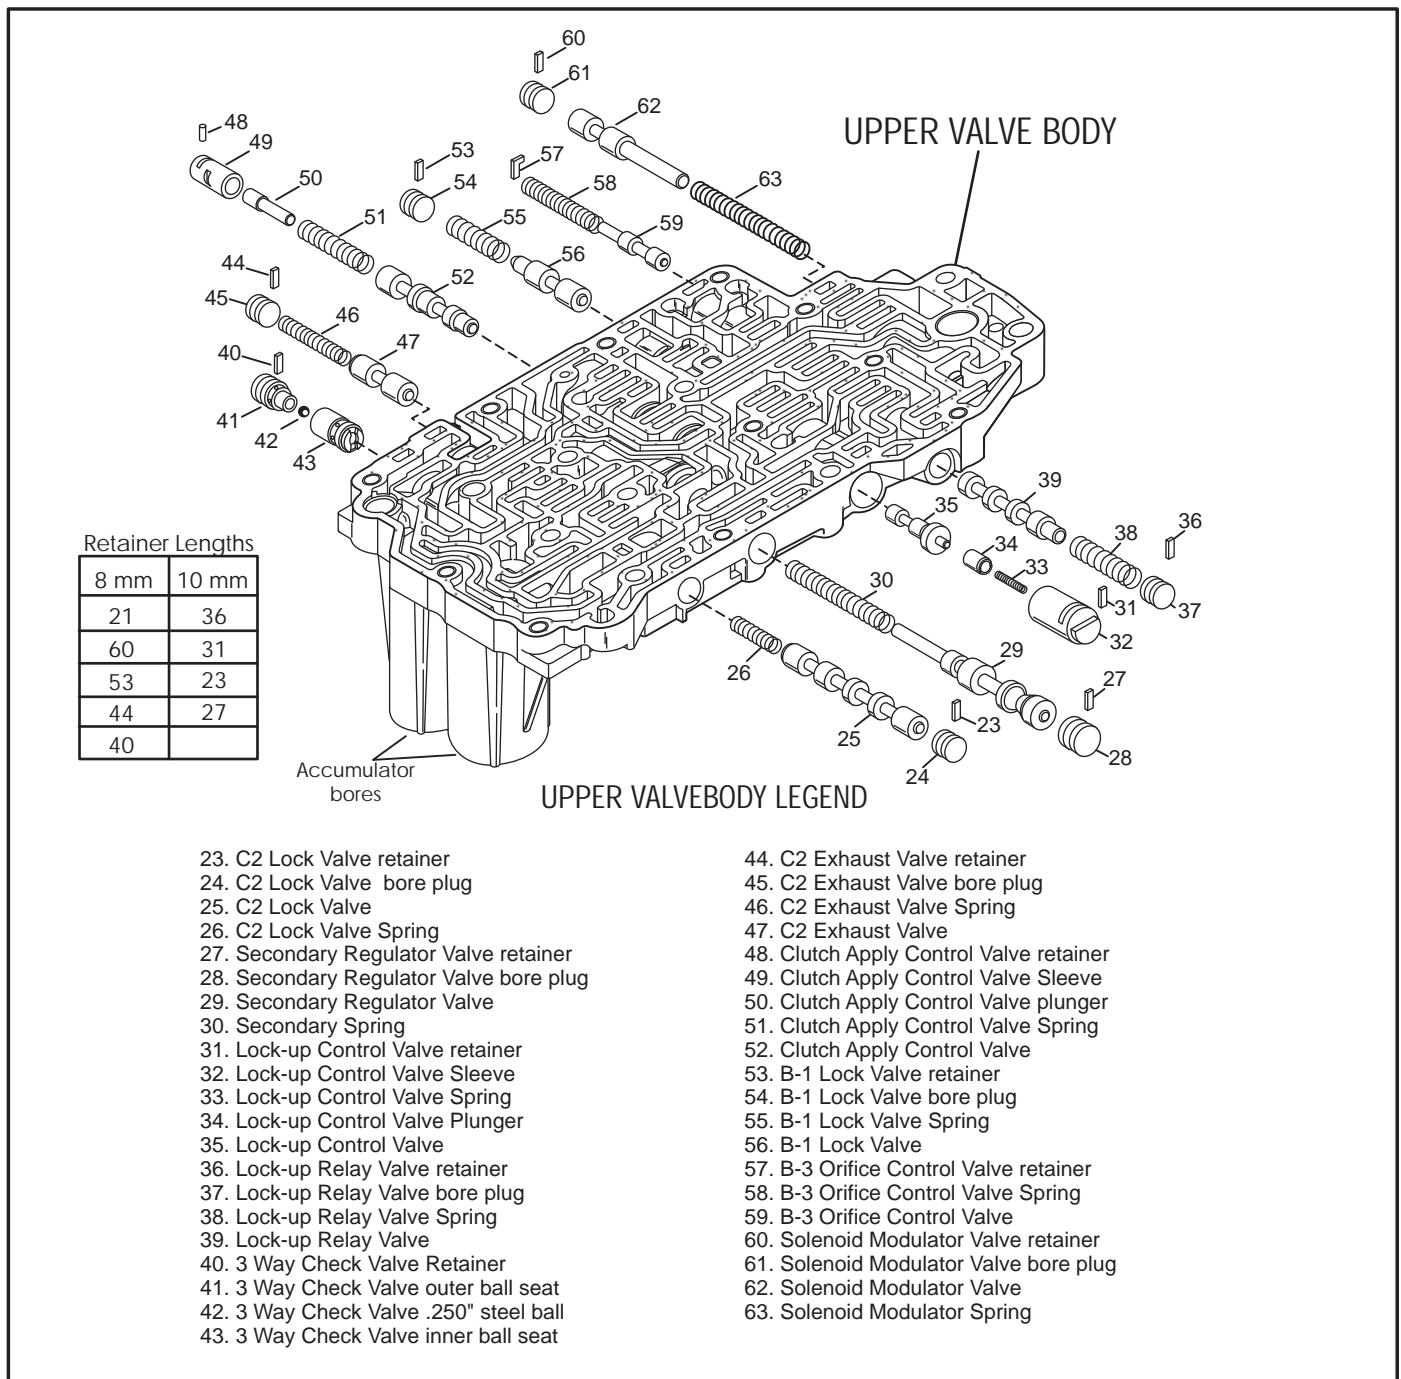

Figure 131
25. Disassemble upper valve body and place valves, springs and retainers in appropriate trays exactly as they were removed as shown in Figure 131.
27. Assemble the upper valve body parts as shown in Figure 131, and lube the valves with a small amount of ATF as they are installed.
Note: Items 49 and 32 are commonly worn and may require replacement. Also note there are different lengths on some of the retainers listed below in Figure 131.